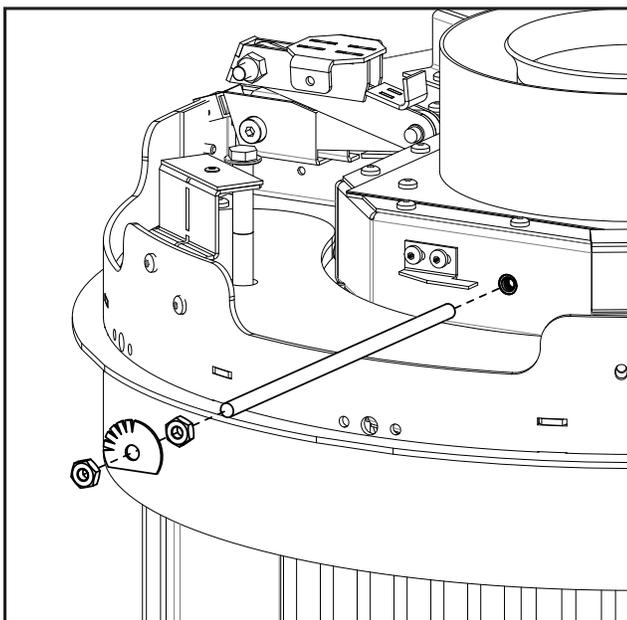

Figure 62: Restrictor Rod Removal
6. Remove the threaded rod from the exhaust spigot (see Figure 62). A power drill with a 7/16" socket and extension will be helpful here.